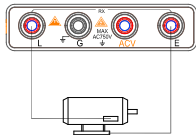

Figure 2
- 9、 Insulation resistance measurement method: (As Figure 2)